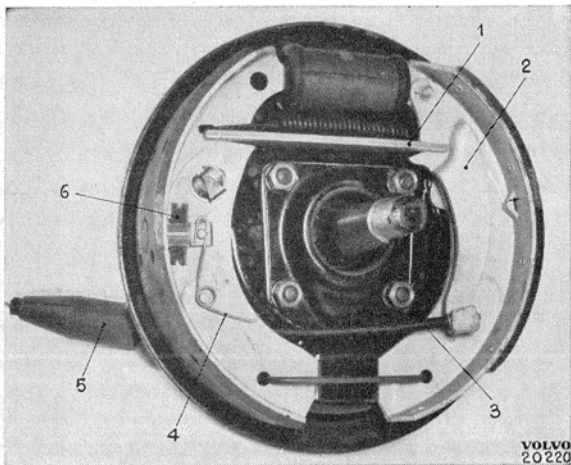

Fig. 32. Rear wheel brake unit.
4. Unhook the cable (3, Fig. 32) from the lever (2) on the rear brake shoe. The cable with outer casing can then be pulled forwards after the locking spring has been unhooked. For cables without outer casings, the rubber cover is first pulled off the pipe after which the cable is pulled to the rear so that the locking washer can be removed. If the guide sleeve does not come off with the cable, it can be knocked to the rear with a narrow drift.